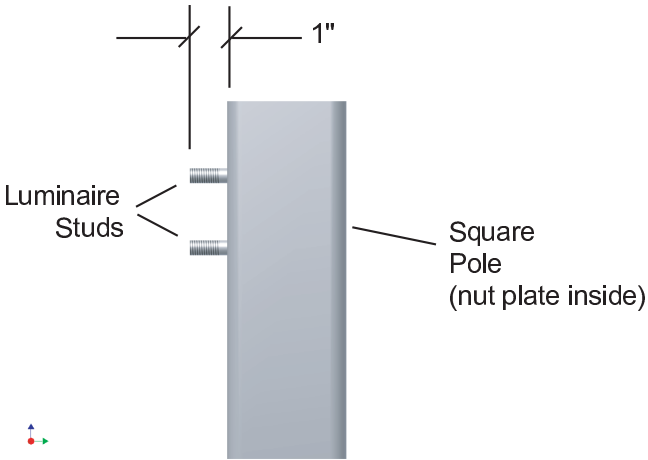

FIGURE 3
A. DIRECTLY TO SQUARE POLE - FIGURE 3
3. With nut plate inside pole, thread luminaire mounting studs thru top and bottom pole holes, then into nut plate. See Figure 3.